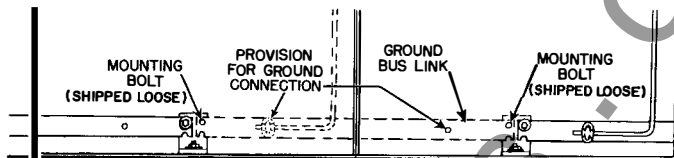

Fig. 6
- e. Install ground bus and any necessary ground connections within unit, Figs. 6 and 7.